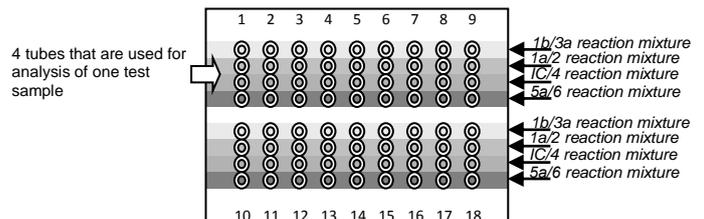

Figure 1 – Scheme of distribution of reaction mixtures and samples in case striped tubes are used.
5. Transfer 15 µl of the **prepared mixture** to the PCR tubes according to marking. Make sure that **PCR-mix-1-FRT HCV genotypes 1b/3a** is added to the tubes labeled as "sample no. **1b/3a**" and so on. If striped tubes are used, the reaction mixtures should be transferred to the tubes in accordance with the order indicated on Fig. 1.